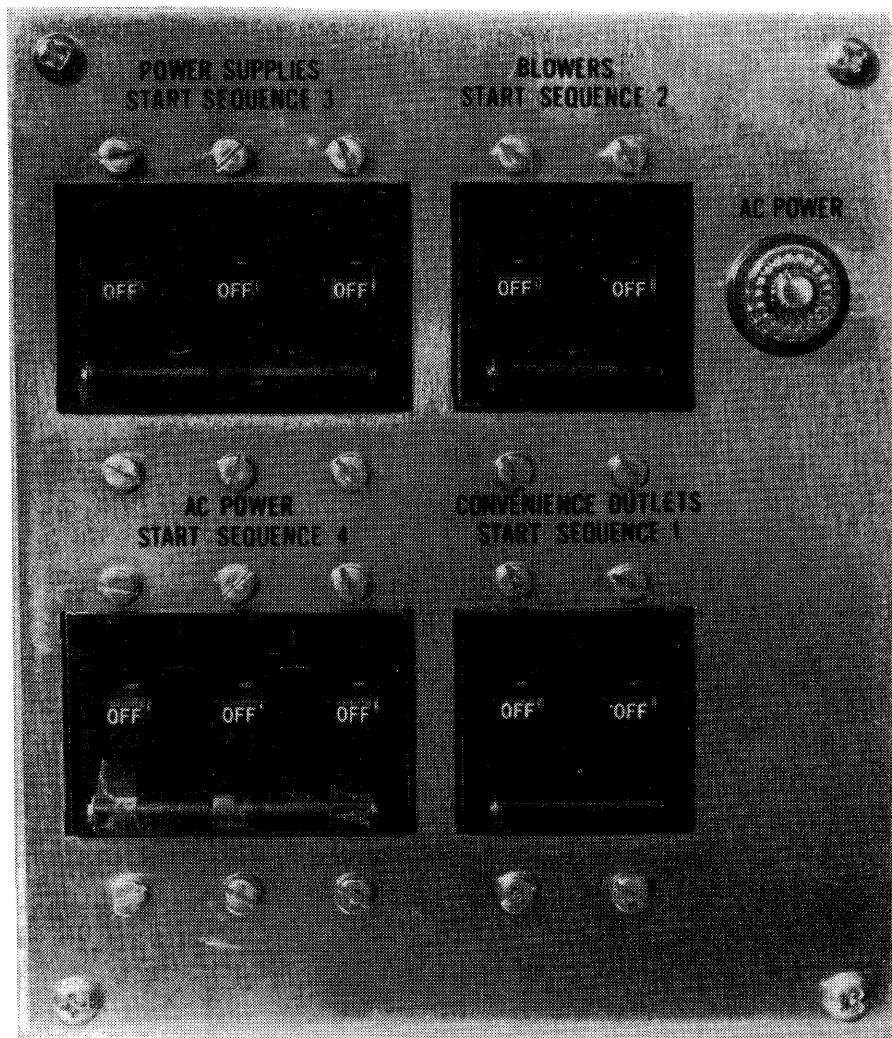

Figure 3-3. Storage AC Power Control Panel
The AC power control panel, shown in Figure 3-3, is located directly below the convenience outlet on the lower-front of the storage cabinet. It is used to apply AC power to the storage unit. Table 3-3 lists the breakers and indicators and explains their functions.
- (1) The following steps are performed at the AC power control panel, see Figure 3-3.
- (2) The following steps are performed at the AC power control panel, see Figure 3-3.